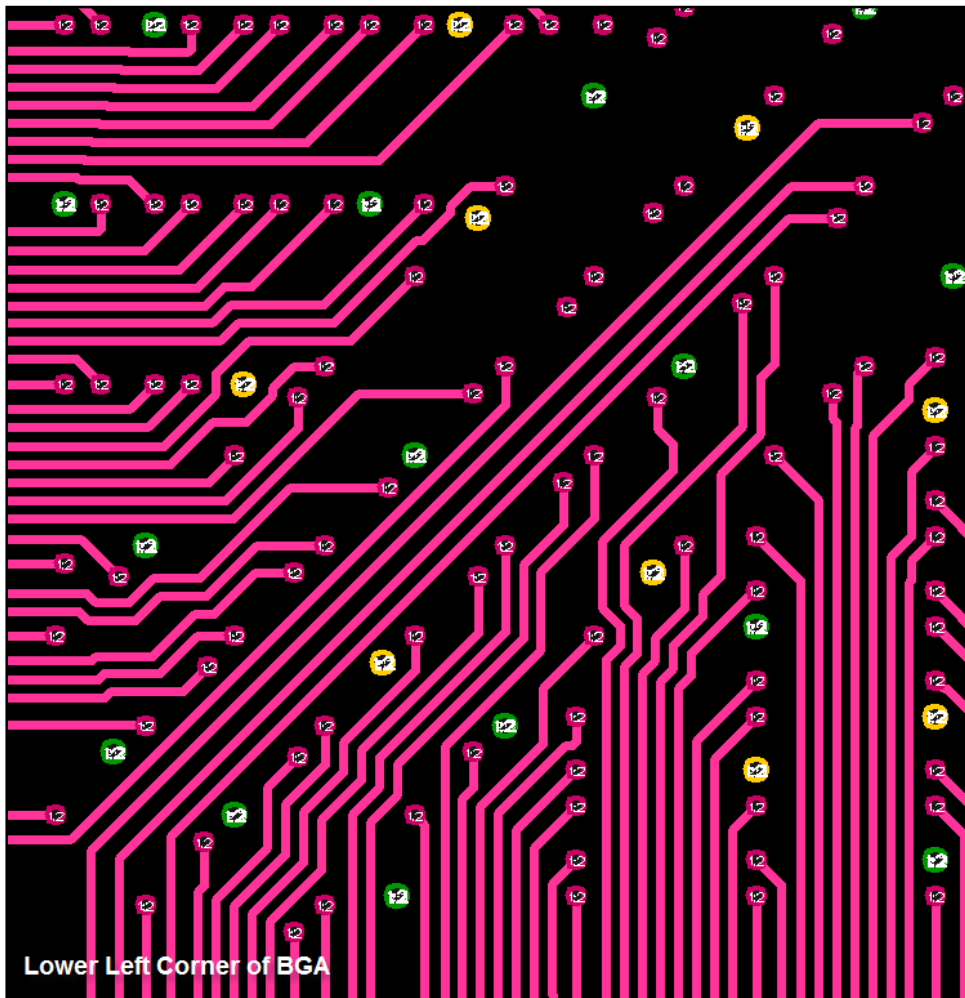

Figure 6-29: Test 3 layer 2 corner via patterns and breakouts (Test 3)
- The vias are aligned in a diagonal at the corners. This provides additional routing space as you can see in Figure 6-29.